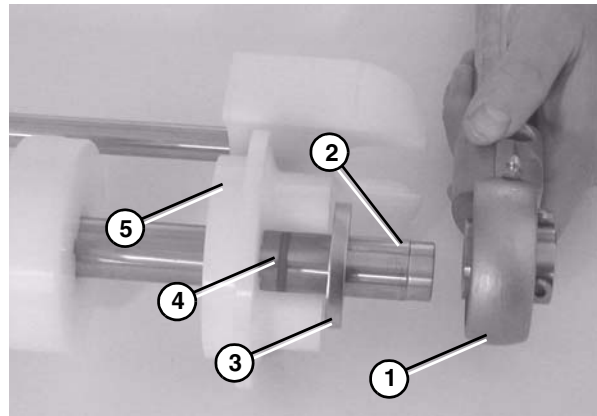

Figure 79
3. Attach the flanged pucks (Figure 79, item 5), O-rings (Figure 79, item 4), washers (Figure 79, item 3), and bearing shaft assembly (Figure 79, item 1) off the idler shaft (Figure 79, item 2).